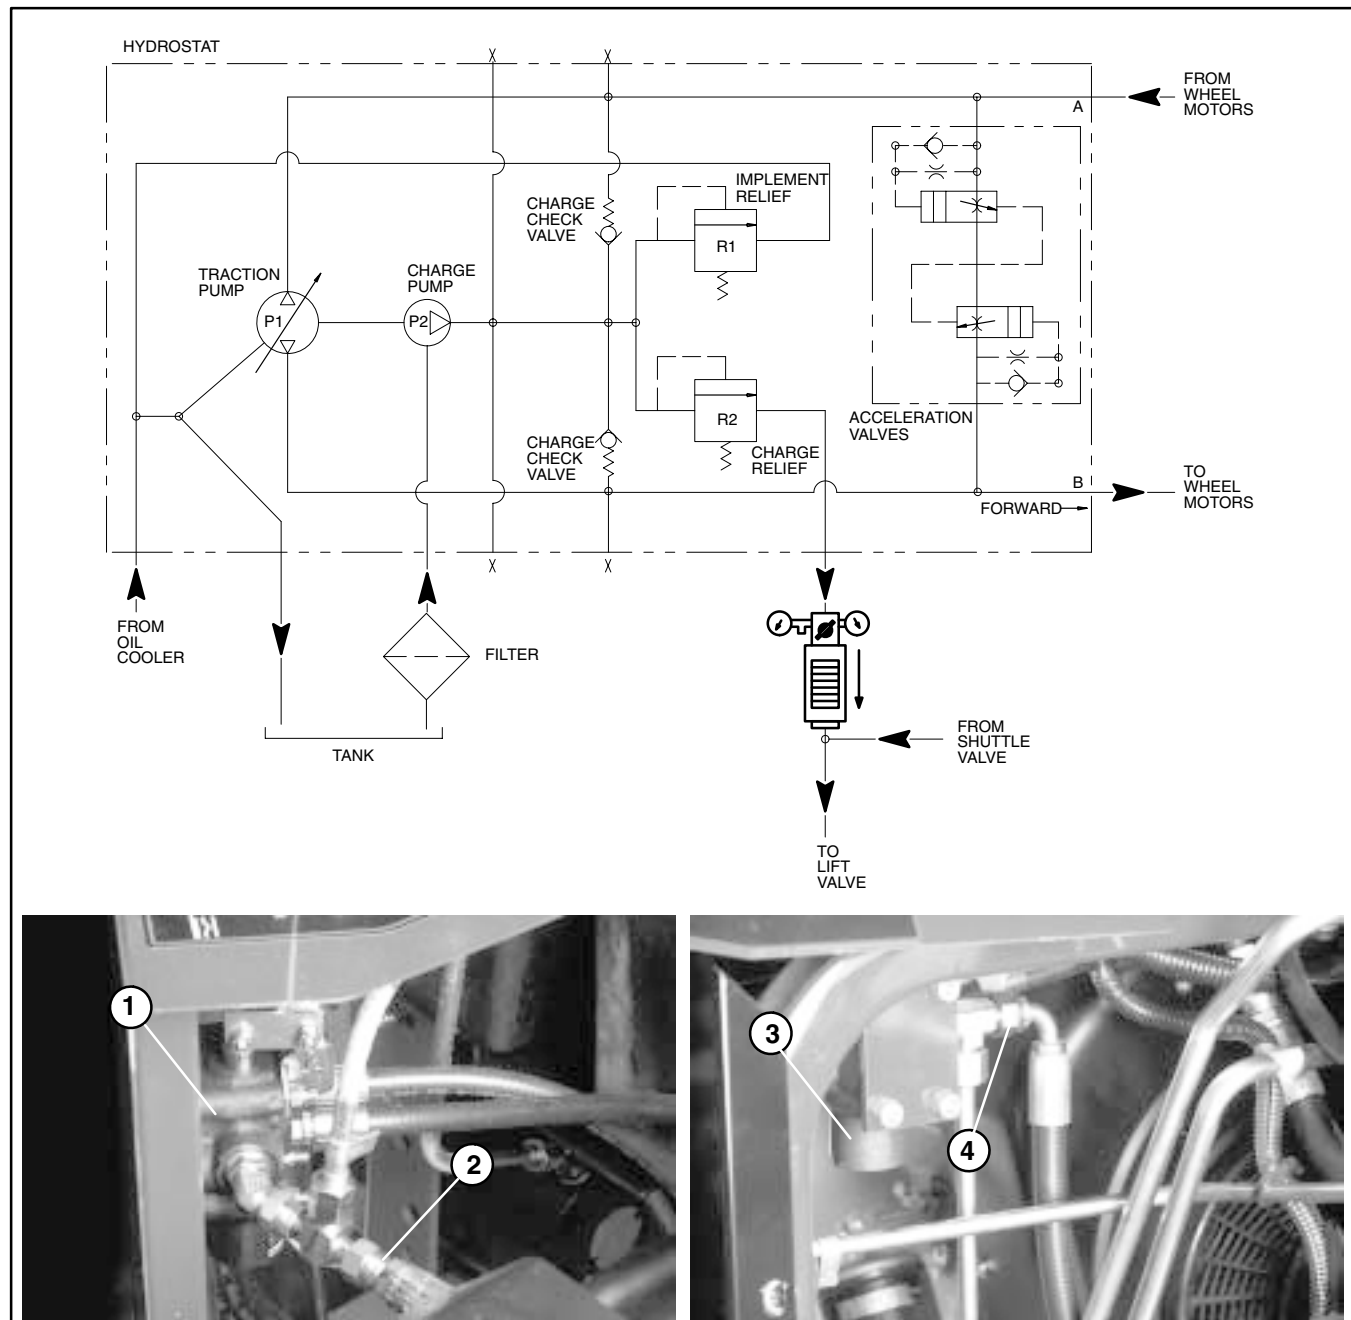

Figure 14
**NOTE:** If only implement relief valve (R1) pressure is to be measured, an alternate pressure gauge location is to install a T-connector with pressure gauge in series with the hose from the pump and the T-fitting on the lift valve (Figure 14).